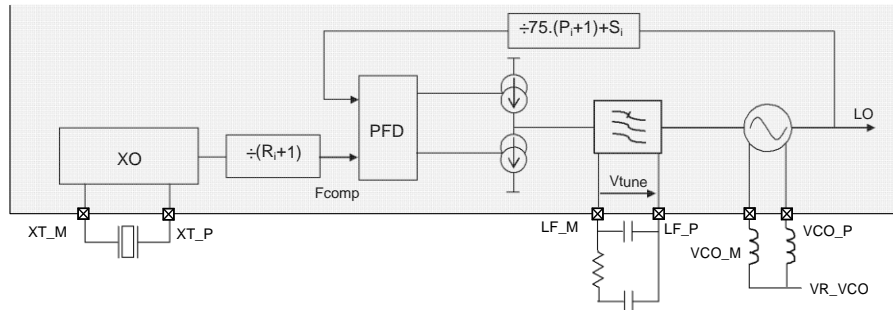

Figure 5: Frequency Synthesizer Description
The crystal oscillator (XO) forms the reference oscillator of an Integer-N Phase Locked Loop (PLL), whose operation is discussed in the following section. Figure 5 shows a block schematic of the RF63 PLL. Here the crystal reference frequency and the software controlled dividers R, P and S determine the output frequency of the PLL.
As shown in Figure 5 the PLL structure comprises three different dividers, R, P and S, which set the output frequency through the LO. A second set of dividers is also available to allow rapid switching between a pair of frequencies: R1/P1/S1 and R2/P2/S2. These six dividers are programmed by six bytes of the register MCPParam from addresses 6 to 11.